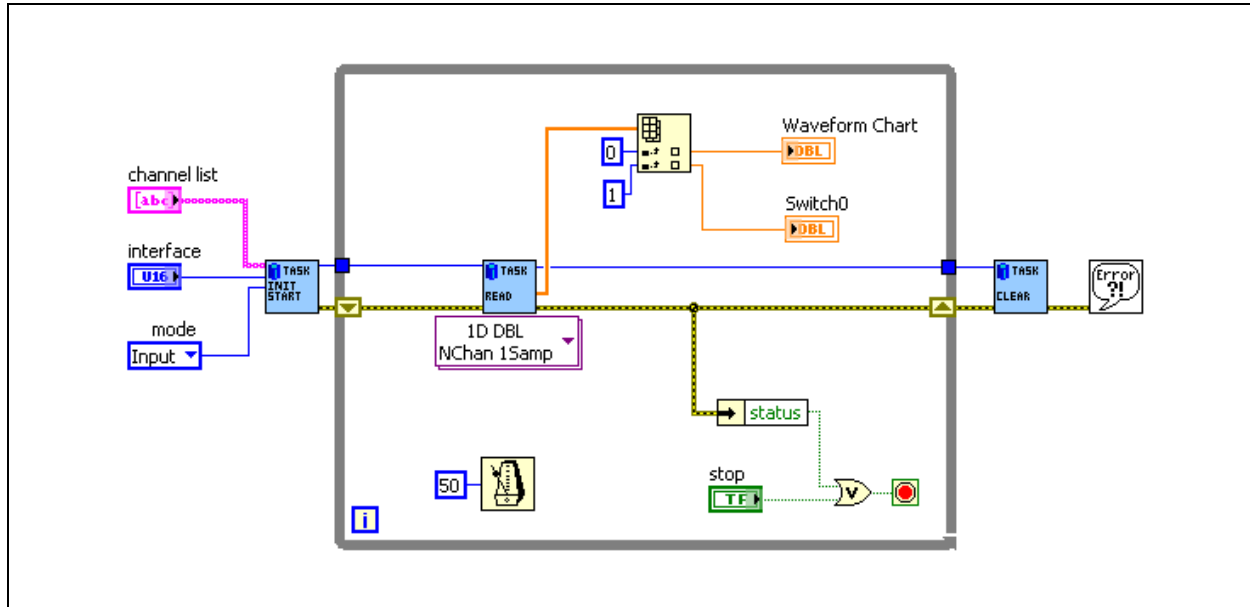

Figure 1-20. Read CAN Channels (Multiple) VI Block Diagram
2. Modify the block diagram as shown in Figure 1-20 to display the second channel.